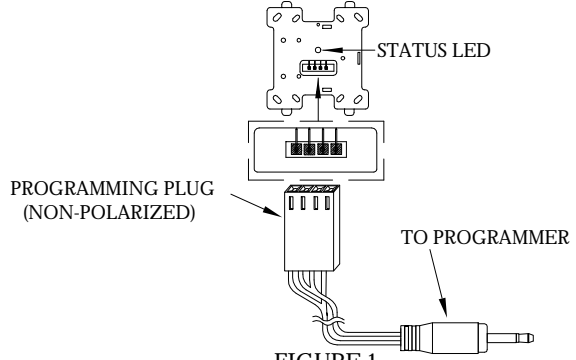

FIGURE 1. FRCME-4 PROGRAMMING CONNECTIONS
- 3) The address must be set on the FRCME-4 before the cover plate is attached (see Fig. 1).